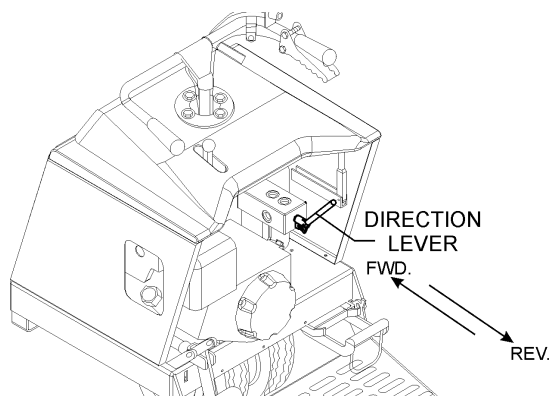

Figure 17. Direction Lever
4. Place the power buggy's direction lever (Figure 17) in the forward direction.
1. With the engine running and parking brake released, place the direction lever (Figure 17) in the forward direction.